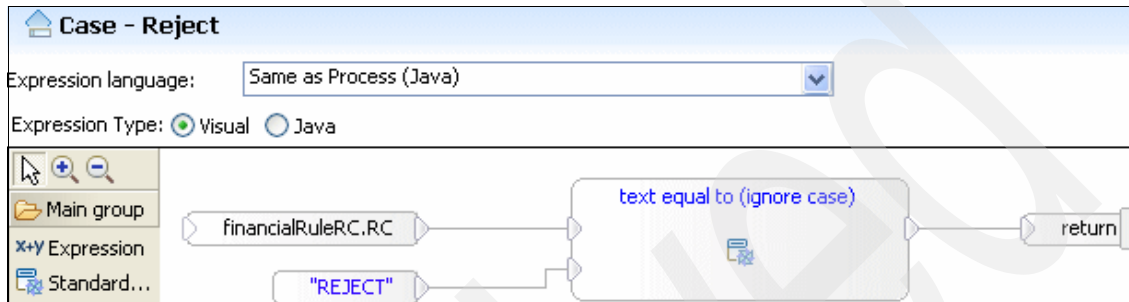

Figure 3-71 Case - Reject logic on financial path
- Complete the logic as shown in Figure 3-71.